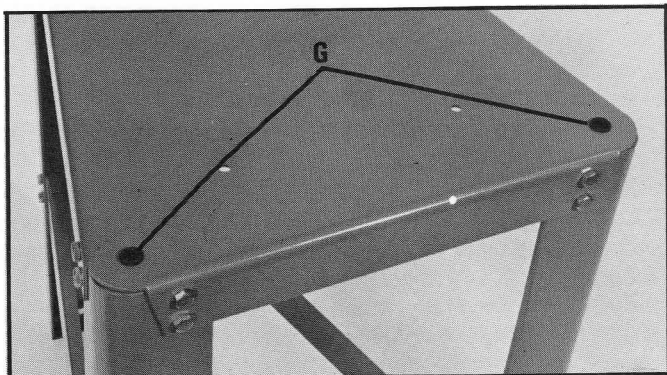

Fig. 5
4. Assemble each of the two grommets (G) Fig. 5, into the holes in both front corners of the top shelf. NOTE: A small screwdriver can be used to assemble the grommets to the holes, as shown in Fig. 5 and 6.